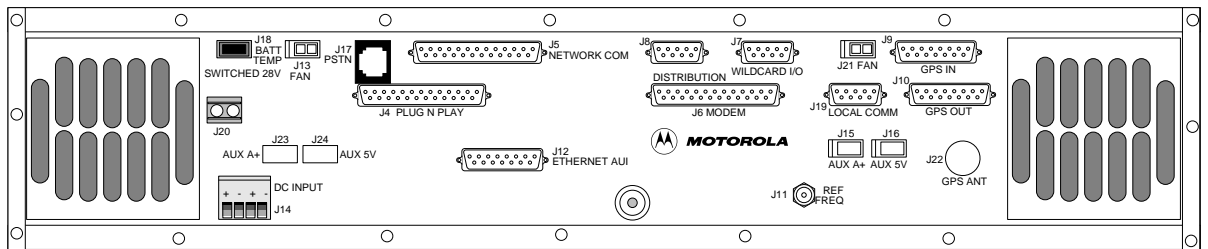

Figure 6-19: Location of RF-O! Transmitter Backplane Chassis Fastening Torx Screws
4. Remove 16 Torx #15 screws around the outside edges of the backplane cover (see Figure 6-19).
- (1) REAR PNL RFO, Motorola part number 6486340G01
5. Install 16 Torx #15 screws around the outside edges of the backplane cover (see Figure 6-19).